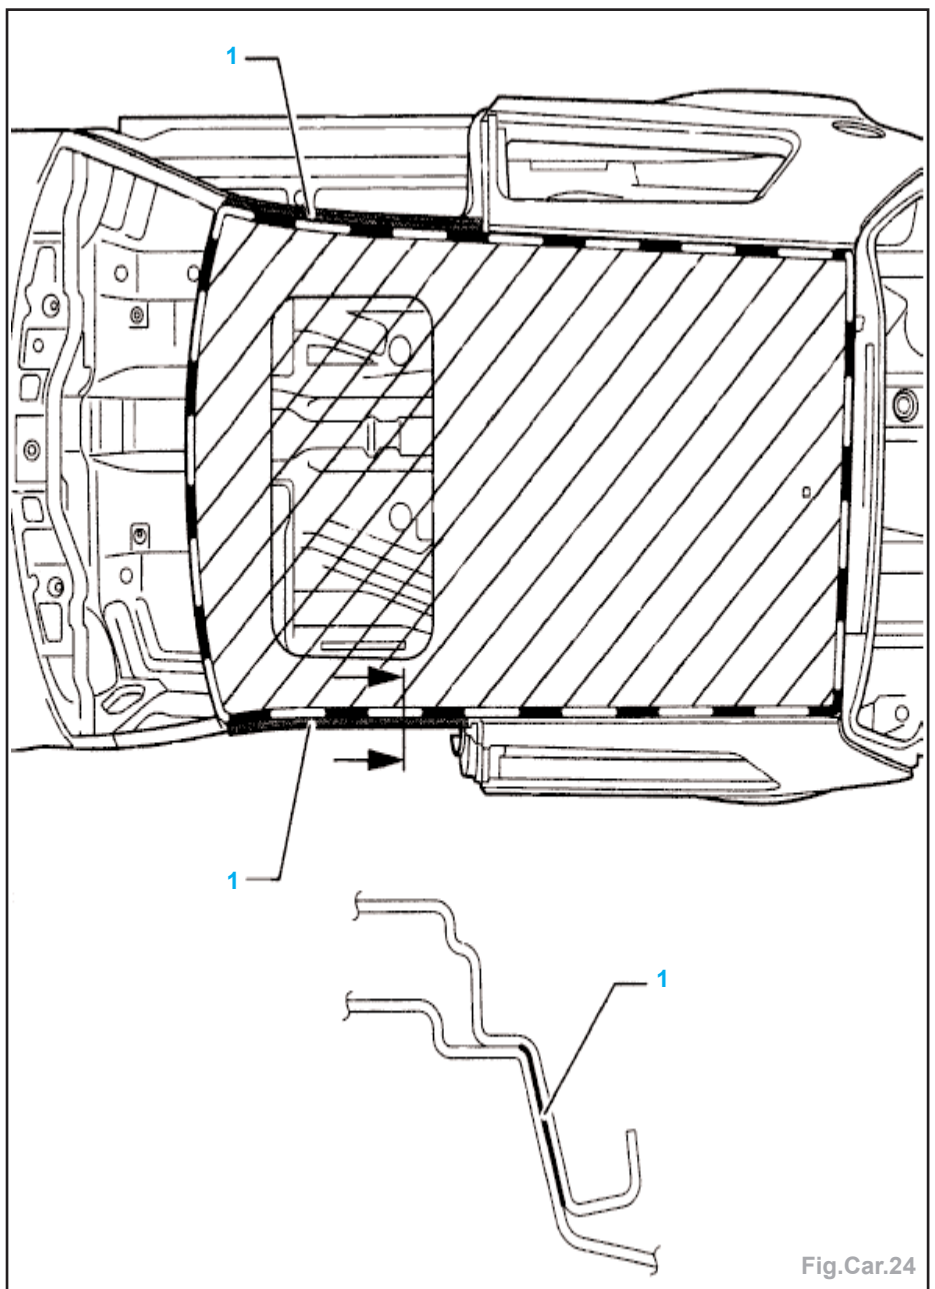

Fig.Car.24
- Zone collée (1) (Fig.Car.24).